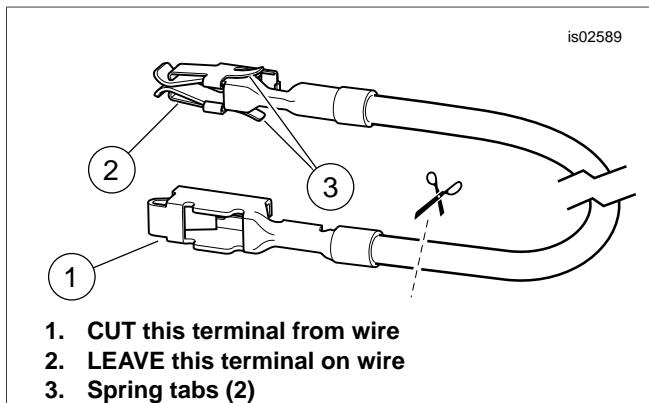

Figure 5. Fuse Block Adapter Wire (Dyna and Softail)
3. See Figure 12. Obtain the orange/white fuse block adapter wire (11) from the kit. Note the terminal on each end (see Figure 5). Only the terminal with the spring tabs will fit into this fuse block. Carefully cut the unused terminal from the wire and discard it.
- See Figure 12. Obtain the orange/white fuse block adapter wire (11) from the kit. Note the terminal on each end (see Figure 5). Only the terminal with the spring tabs will fit into this fuse block. Carefully cut the unused terminal from the wire and discard it.